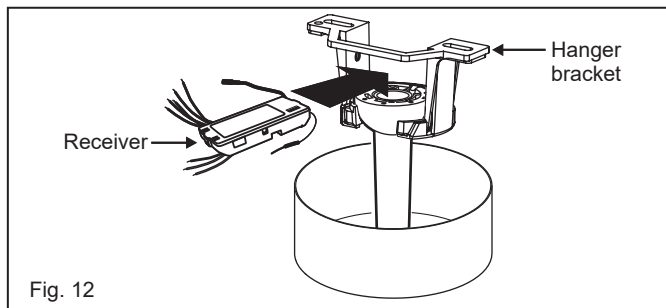

Fig. 12
1. Insert the receiver into the ceiling mounting bracket with the flat side of the receiver facing the ceiling. (Fig. 12) For best performance, make sure the Black Antenna and WIFI Antenna, on the end of the receiver, remains extended and not tangled with any of the electrical wires.